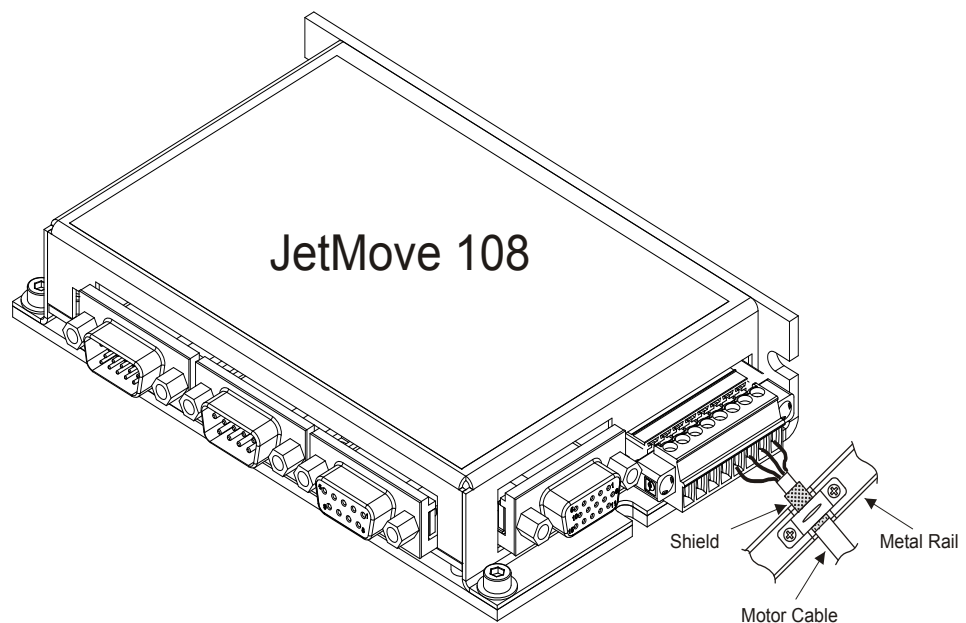

Fig. 2: Shielding of screw terminals to EMC standards
It is important that shield and strain relief are highly conductive and directly connected to a grounded surface with the greatest possible surface area. When doing so, grounding must be implemented in a way that the unshielded portion of the cable is as short as possible (refer to Fig. 2).
- Connect the motor leads according to Fig. 2, page 18.